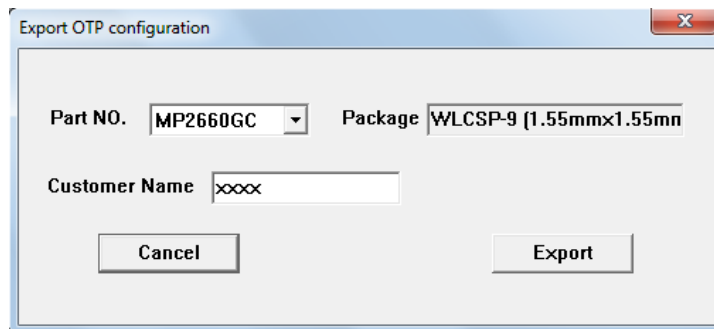

Figure 10: Select "Export"
5. Select values from the drop-down menus. Please make sure all the parameters are populated before selecting EXPORT in the tool bar. Export the configuration by clicking EXPORT. (see Figure 10).